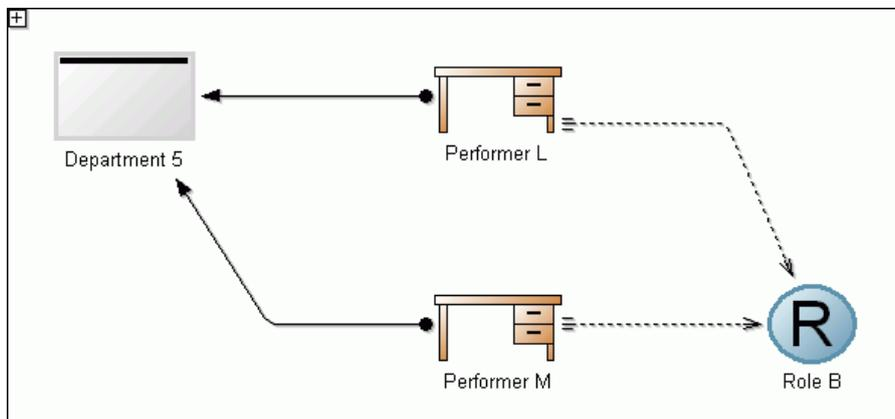

Figure 400: Example model in the ADL file (Variant 1)
**Variant 1:** A model "Example model 1" of the type "WE model" is stored in the ADL file, which is different from the model stored in the database, since it does not contain the object "Role A" (see fig. 400).
When the option **"Delete not updated objects"** is activated, the result of the **Variant 1** equals the contents of the model stored in the file (see fig. 400) since the object "Role A" is not contained in the model to be imported.